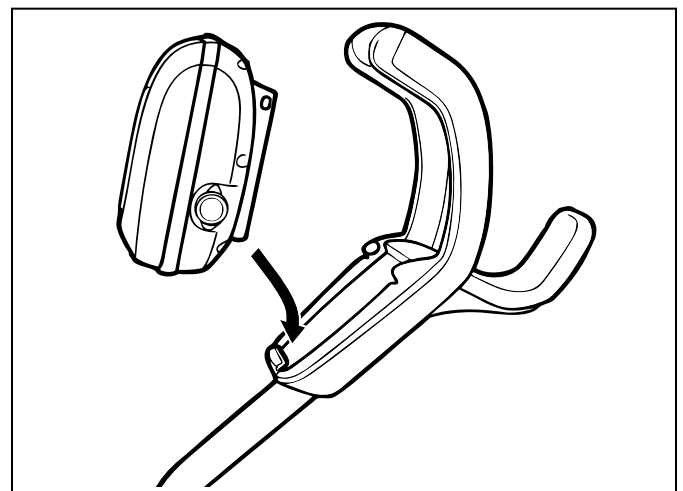

Figure 10. Align Control Unit with Caddy Hook
1. Align the bottom of the control unit with the notch at bottom of the control unit hook on the caddy (Figure 10).